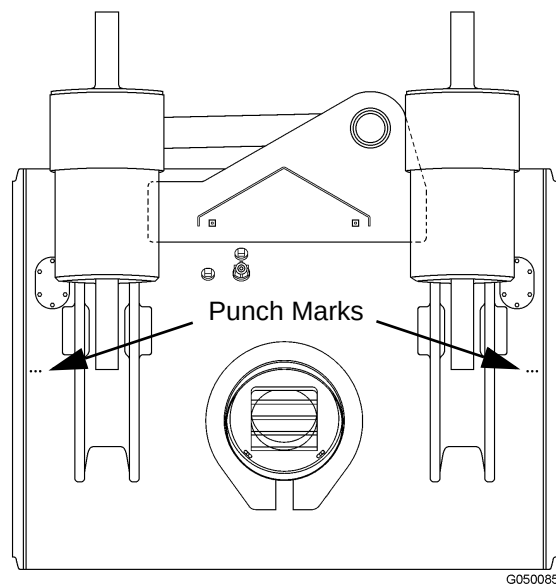

FIGURE 5-7. REAR AXLE HOUSING DIMPLE MARKINGS
**NOTE:** The special hardened washers that are used in this application may have a punch lip on one side due to the manufacturing process. When placing this washer under the cap screw head, the washers must be installed with the punch lip facing away from the cap screw head to prevent damage to the fillet between the cap screw head and the shank. Refer to Figure 5-7.